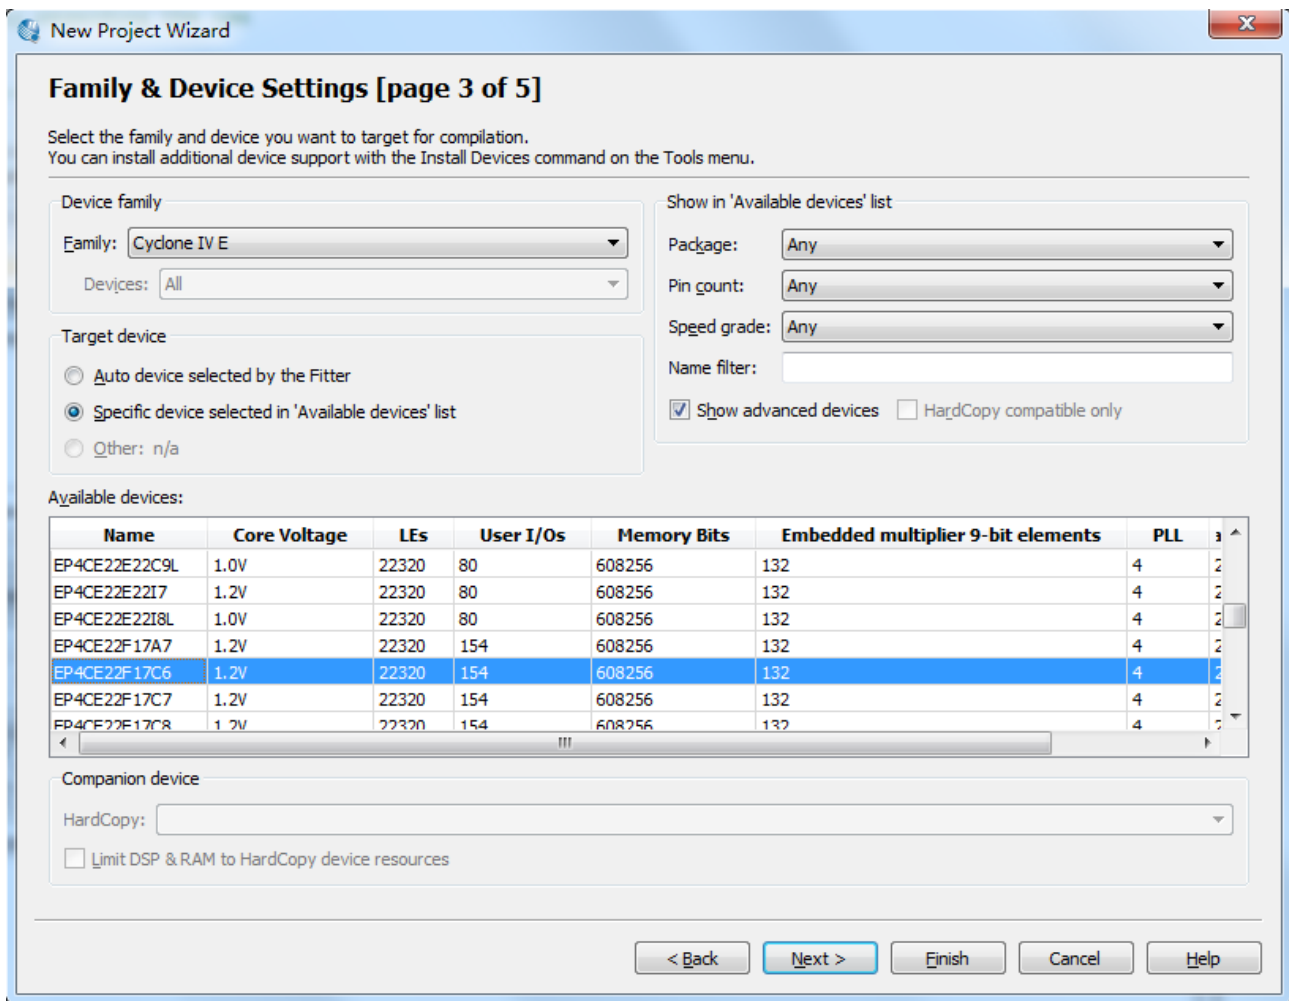

Figure 1-5 New Project Wizard: Family & Device Settings [page 3 of 5]
3. Click Next to next window. We choose device family and device settings. You should choose settings the same as the Figure 1-5. Then click Next to next window as shown in Figure 1-6.
15. Connect the **clk** and **clk\_reset** and **data\_master** as shown in Figure 1-5.